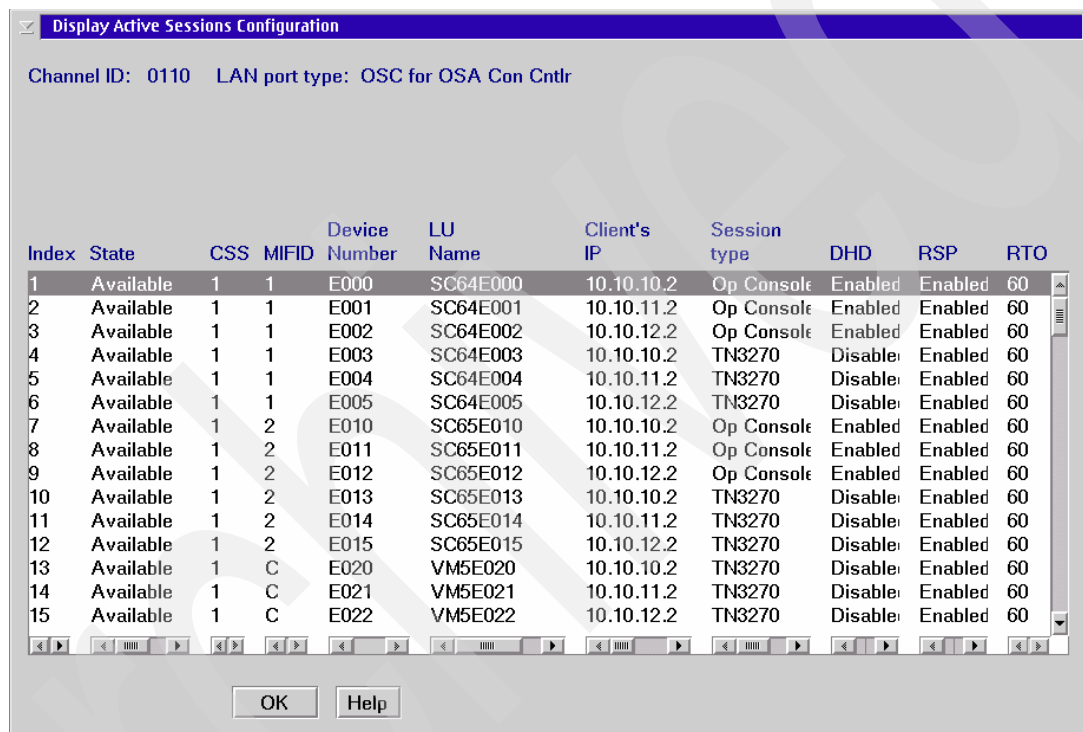

Figure 4-3 Display active sessions configuration
1. Starting with the Advanced Facilities panel, click **Display active sessions configuration**, and click **OK**. The Display Active Sessions Configuration panel is displayed (Figure 4-3).